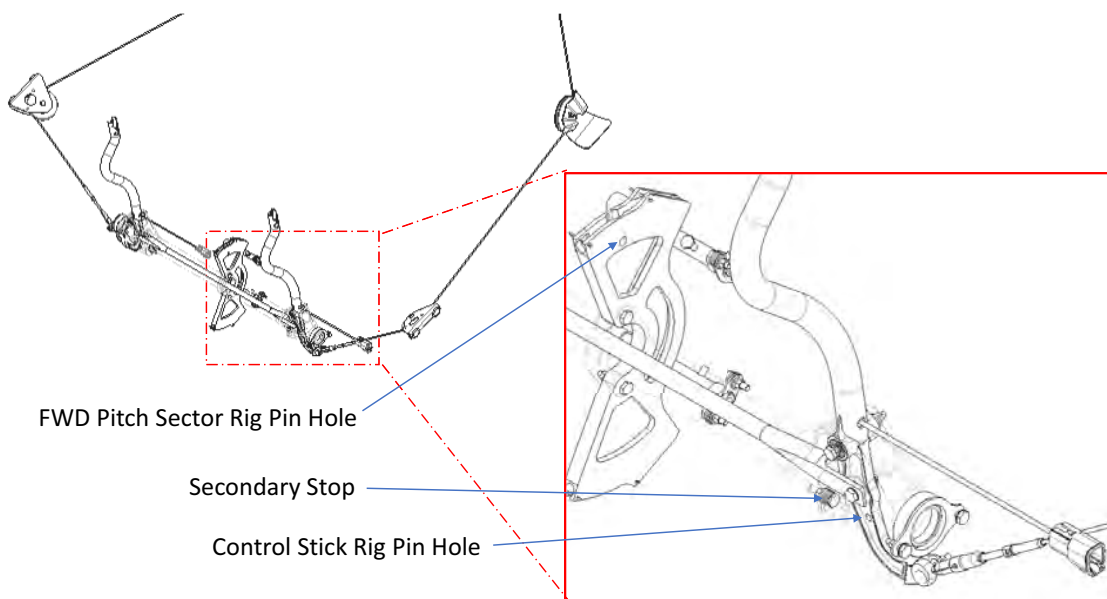

FIGURE 9-13
- b. Verify that contact is made with the secondary roll stops (located at the base of the control sticks as shown in Figure 9-13) at the specified force. If not within specified force adjust the length of the secondary stop bolts using NAS1149C0363R washers. If a finer adjustment is necessary it is permissible to use NSAS1149C0332R or NAS1149C0316R washers. A minimum of three and maximum of seven NAS1149C0363R washers are allowed. Verify proper thread protrusion of the bolt and nut of the secondary stop once complete.